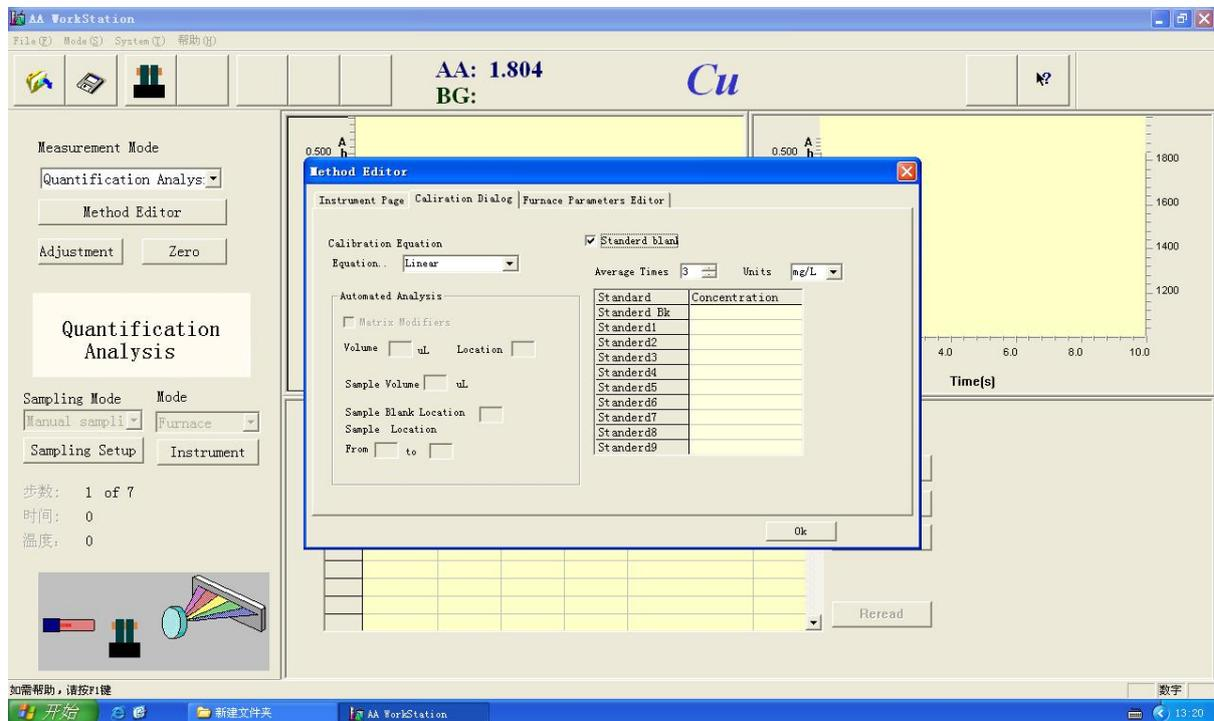

Figure 4-37
2. "Average times". input an appropriate value between 1 and 20. Two methods, one is inputting the value directly in the input box, the other is press the arrow on the right of the input box (Figure 4-37)